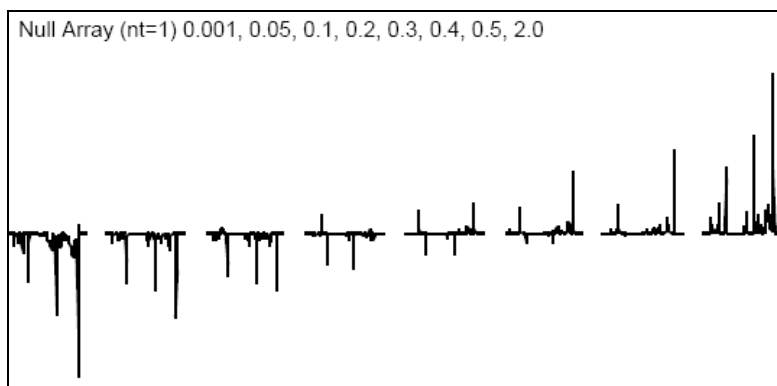

Figure 59 Optimizing the BIRD Nulling Time
8. A value of **null=0.3** is recommended. If appropriate, optimize the parameter null. Set **nt=1 ss=4** and enter an array of **null** values with at least one very short value (e.g., 0.001) and one very long value (e.g., 2.0). This experiment depends on the relaxation times of the spins involved. Set **at** and **d1** to the same values being used in the 2D experiment. Run the array and select the value of **null** for which either most of the peaks, or the biggest peaks, or the peaks of most interest (choose the criterion), are approximately zero. No one value of null is correct for all peaks. Figure 59 shows this experiment run on a sample of 28 mg of gramicidin, with null arrayed over the range of values: 0.001, 0.05, 0.1, 0.2, 0.3, 0.4, 0.5, and 2.0. Examination of the spectra shows how different values of null may be chosen.